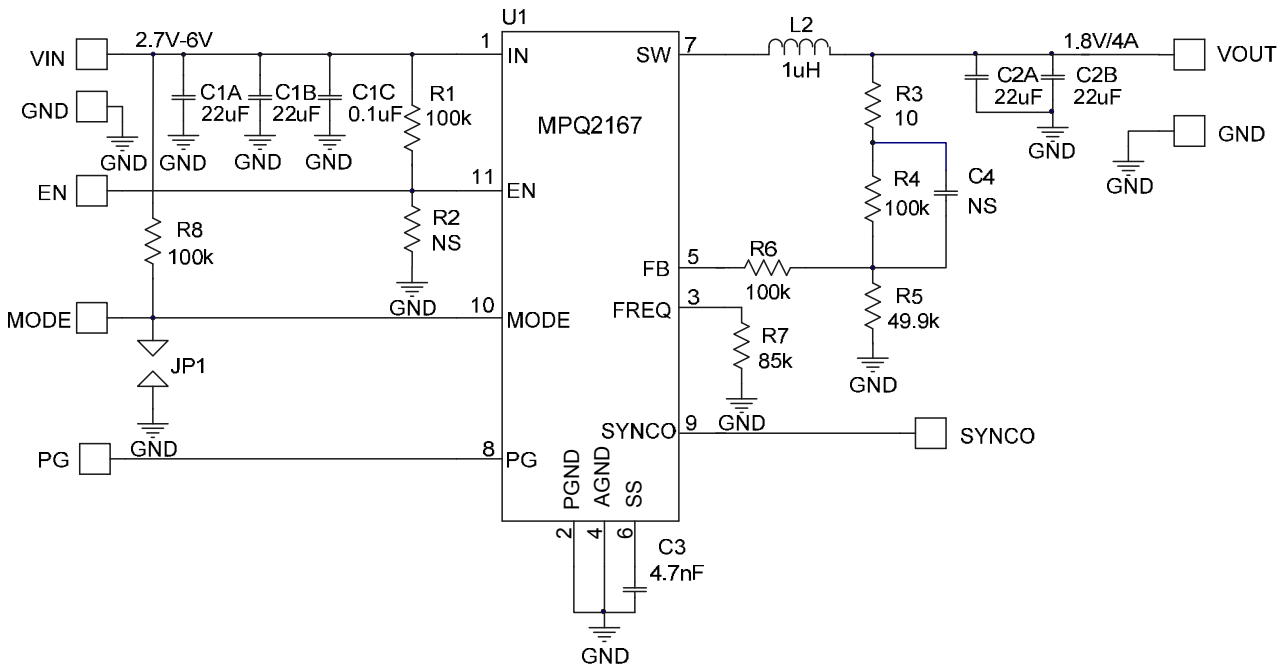

Figure 5:  $V_{out}=1.8V$ ,  $I_{out}=4A$  Application Circuit
- 7) The recommended PCB layout is based on Figure 5.